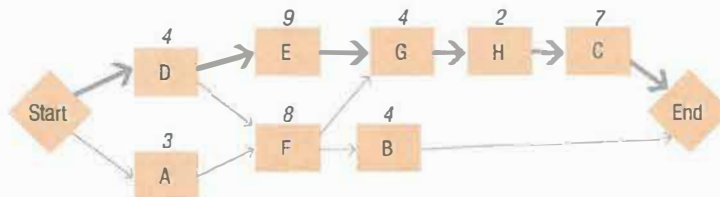

FIGURE 8.11 Critical path method
**Think About It.** Now that we have discussed the basic concepts, let's look at how the critical path method works. We'll use the network diagram in figure 8.11 as an example. The letters in the boxes indicate the activities, and the numbers above the boxes indicate the duration of each activity. The critical path is identified by the bold arrows.